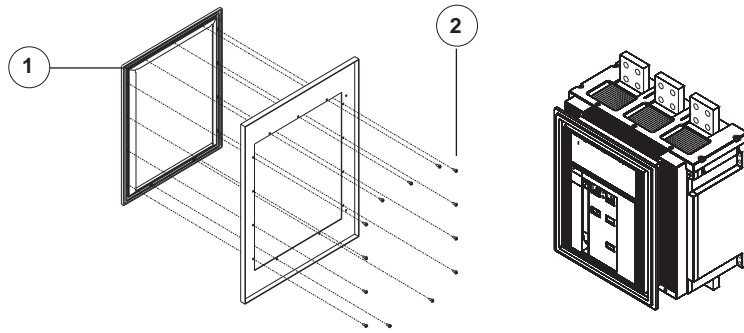

Fig. 8
- Install the escutcheon (Fig. 8) to the front of the enclosure door. Attach from the inside using self tapping screws (2).